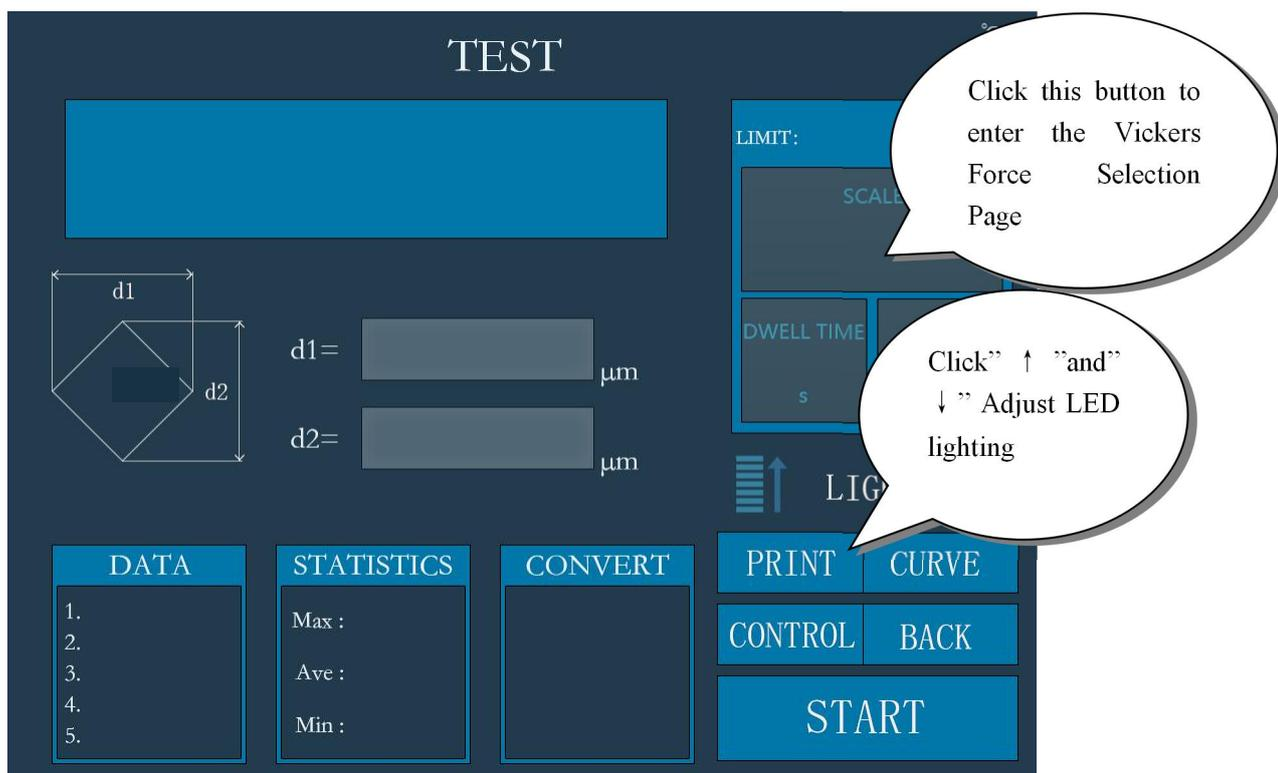
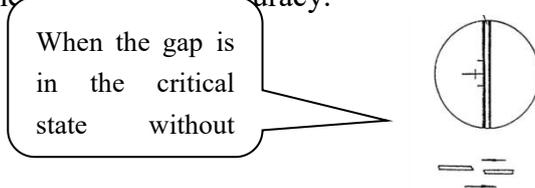

图 5
Fig 14
4.2 Operating page (Fig5)
- 5.3 At this time, the main screen shows (see Fig. 5). **Zero position must be calibrated every time the machine switch on.** When the drum is turned clockwise, the lines in the field of view move close, and when the edges of the two lines are close, the transmission gap decreases gradually. When the two lines are in the critical state with or without optical gap (see Fig. 14), press the button on the eyepiece for about 5 seconds (i.e. zero), then the instrument enters the standby state. At this time, the sample can be placed and the test can be started by pressing the "start" button after focusing.
- 5.10 Move the eyepiece's marking to make it close step by step. When the inside of the marking is infinitely close, the inside of the two markings is in a critical state without light gap (see figure 14). Press the button on the eyepiece for about 5 seconds (i.e. clearing zero). At this time, the number of d1: on the main screen is zero, which is the zero position in the terminology.